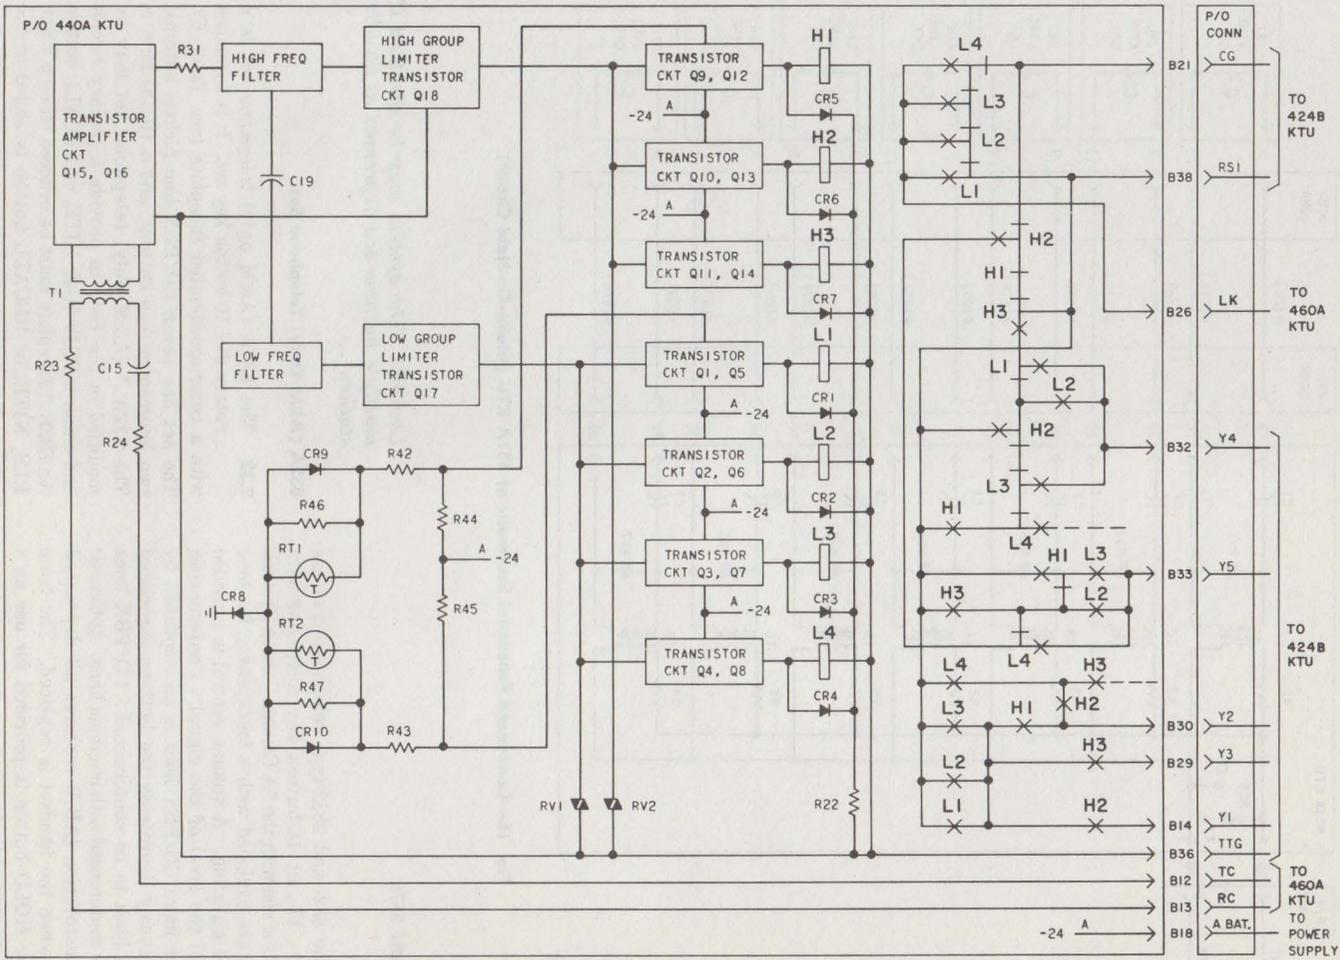

Fig. 15—Condensed Functional Schematic of 440A KTU (TOUCH-TONE Adapter Circuit)
2.19 The 440A KTU (Fig. 15) is an 8-inch unit that provides TOUCH-TONE dialing when used in conjunction with the 424B/424C KTU. Additional information on the 440A KTU may be found in CD- and SD-69906-01.